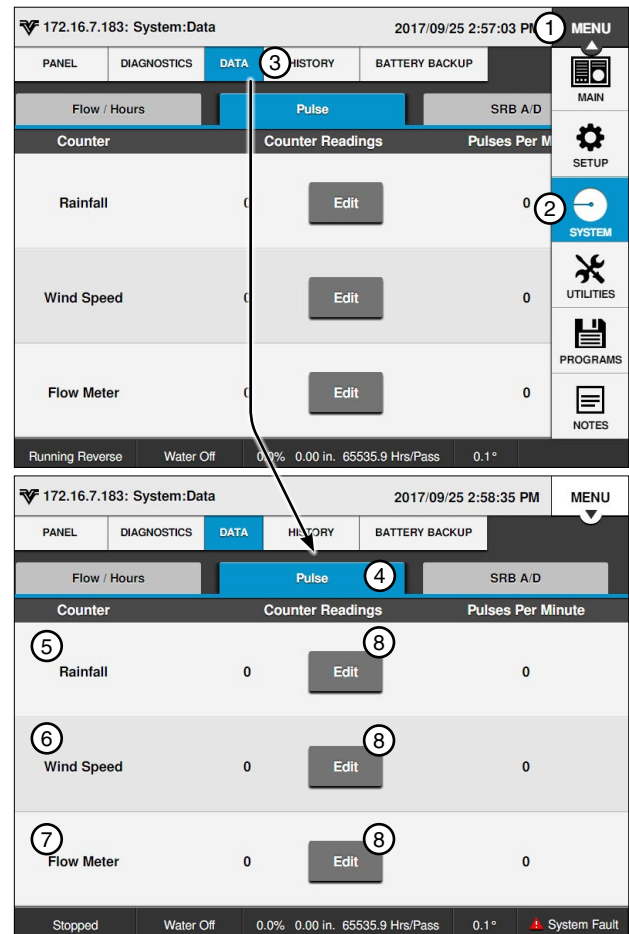

Figure 59-1
Pulse is used to review pulse counts from external equipment. There are three Pulse Counters: Rain, Wind, and Flow. Refer to Figure 59-1.
1. Push **Menu**, **System**, **Data**, and **Pulse** to display the Pulse screen. Refer to Figure 59-1.